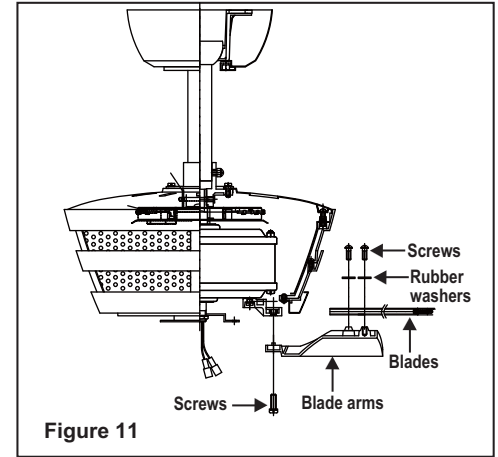

Figure 11
**Step 1.** Attach the blades to the blade arms using three screws and rubber washers as shown in Figure 11. Start a screw into the blade arm, do not tighten. Repeat for the 2 remaining screws and washers.